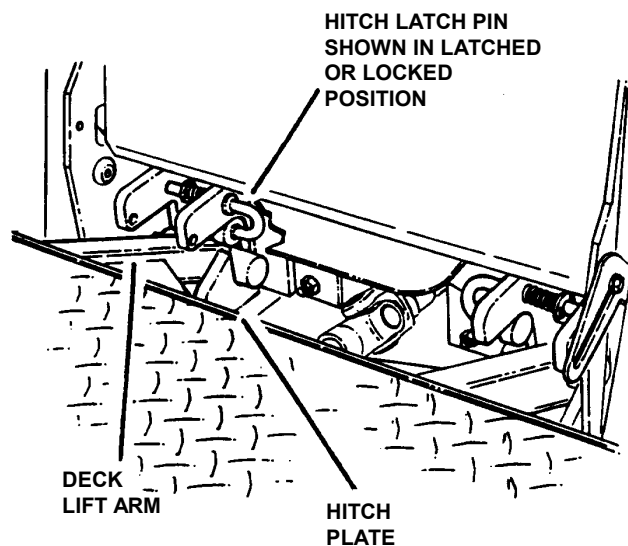

FIGURE 4.9
3. The hitch latch pins are shown in the latched position. The latched position locks the deck lift arm into position. See Figure 4.9.
5. Move deck lift switch as if to lower deck and the lift arm will move up in the hitch plates. The lift arm needs to be high enough to clear the hitch plates when power unit is driven backward away from mower deck. See Figure 4.9.